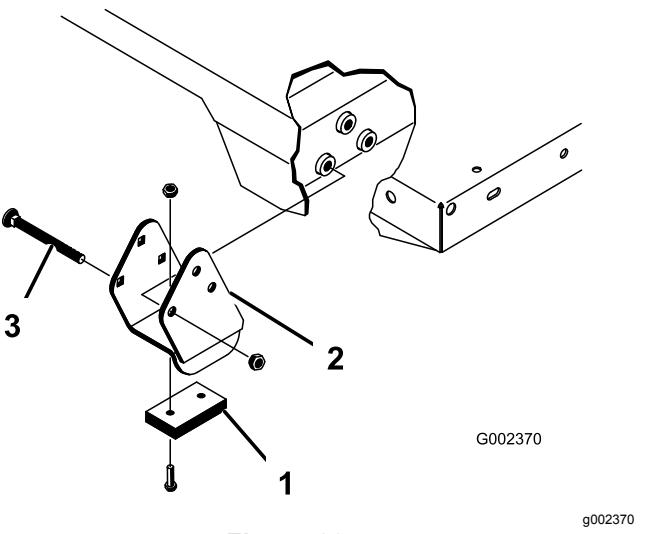

Figure 22
2. Carefully set the bed onto the machine frame, aligning the rear bed pivot-plate holes with the holes in the rear frame channel, and install the 2 clevis pins and lynch pins (Figure 22).
4. Insert the clevis pin from outside of the bed with the lynch pin oriented toward the outside (Figure 22).